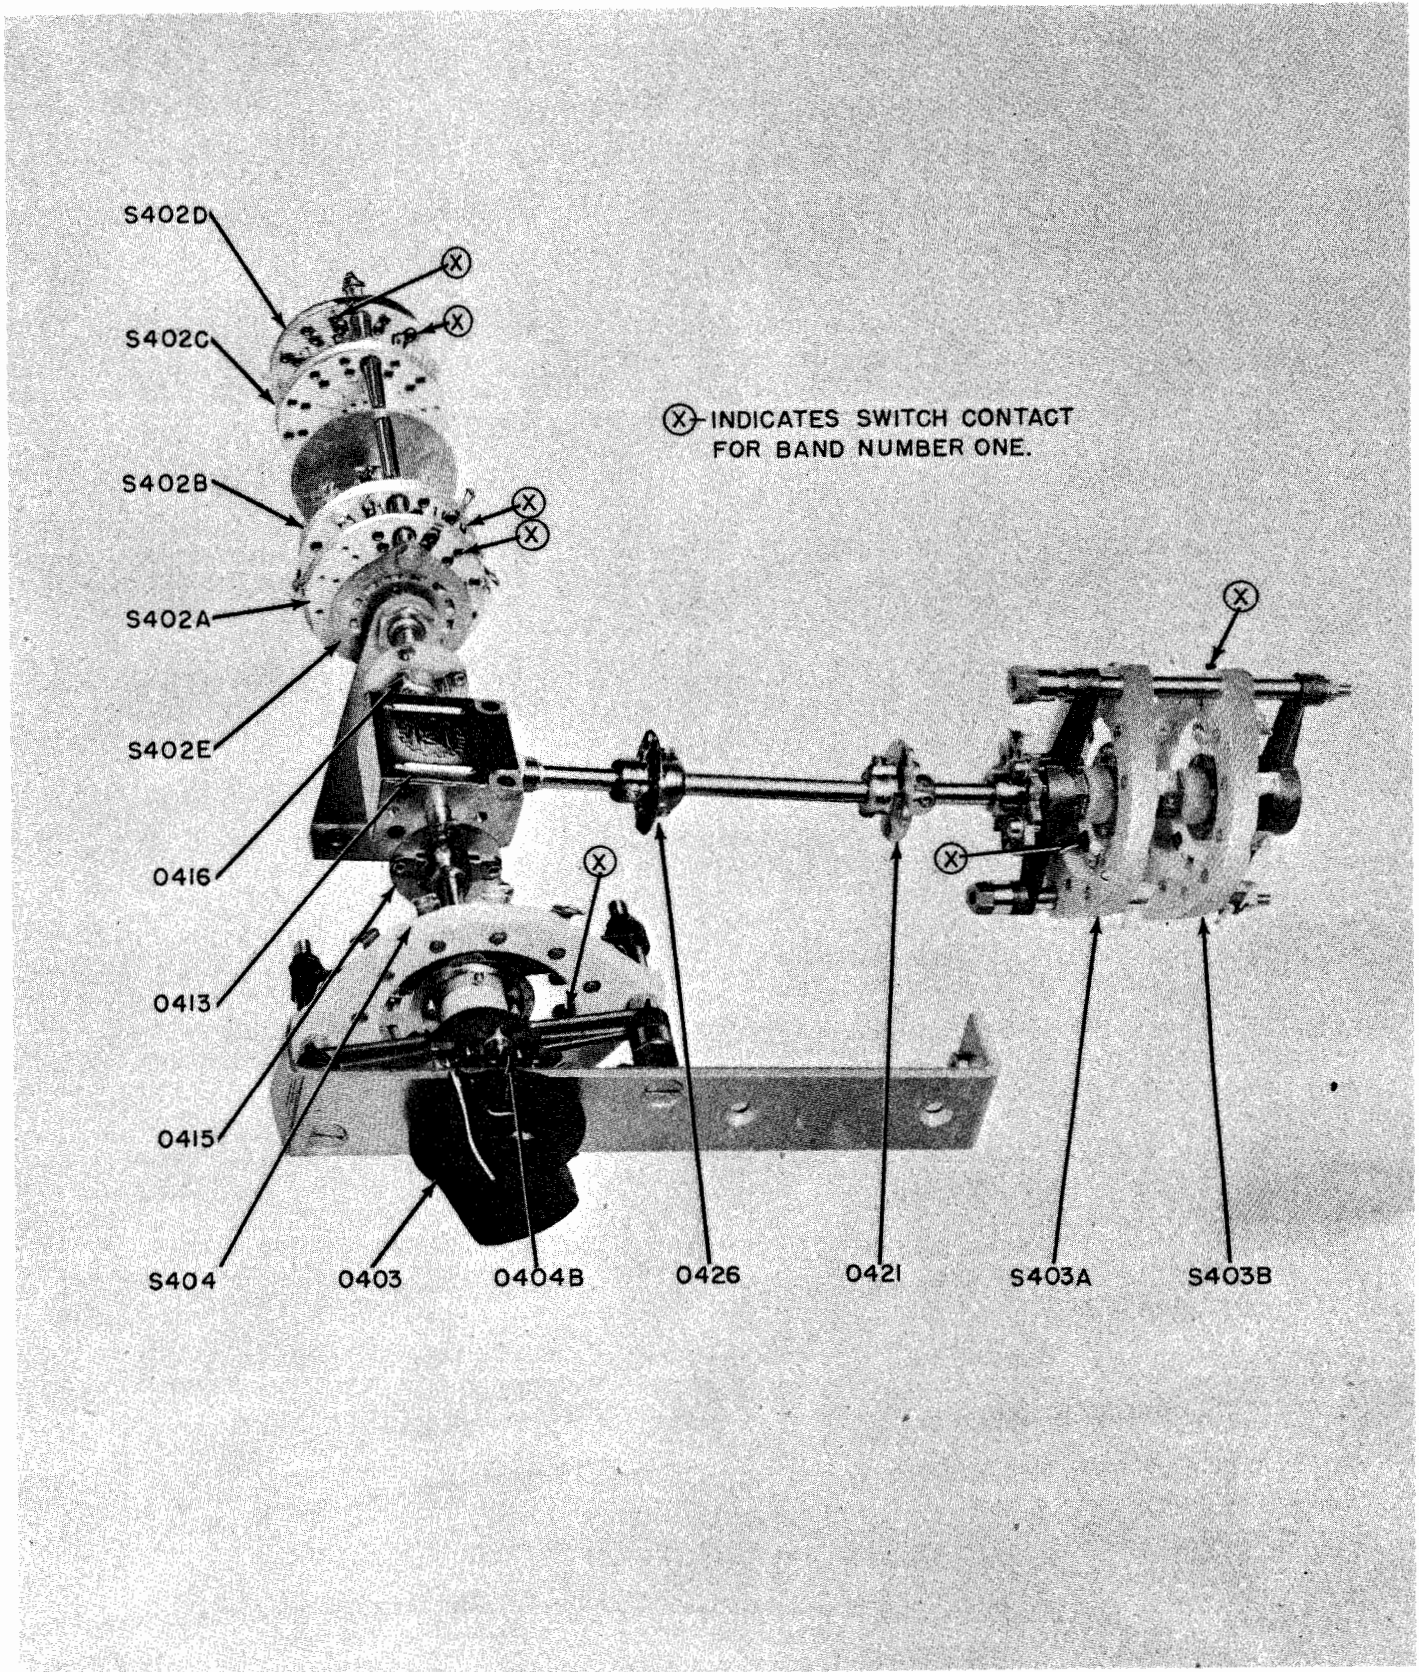

Figure 7-4. PA Band Switch Wafer Positioning
- (2) BAND SWITCH. -(Refer to figure 7-4)
(a) To replace and align the switch wafers of the BAND SWITCH, first withdraw the transmitter unit to the service position, and then orient the rotor section of each switch wafer to correspond to figure 7-4. This figure gives a pictorial layout of the complete switch without showing the structural portions and wiring. Use figure 7-4 for the mechanical alignment. The electrical connections of the wafer sections are given in figure 7-17 and figure 7-20.